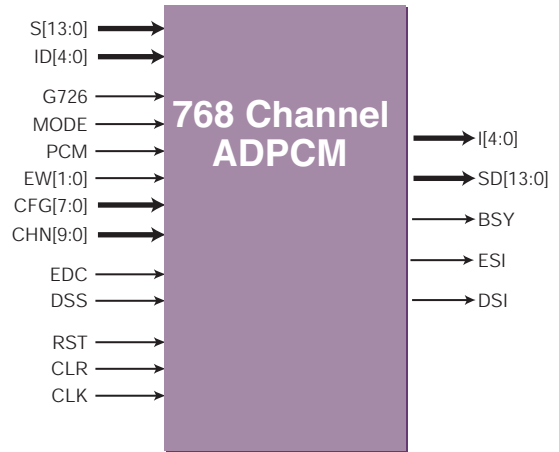

Figure 2: 768-Channel ADPCM Core Pinouts
Pinout of the ADPCM core has not been fixed to specific FPGA I/O, allowing flexibility with a user's application. Table 1 gives the descriptions of the input and output ports (shown graphically in Figure 2) of the 768 ADPCM codec. Unless otherwise stated, all signals are active high and bit (0) is the least significant bit.